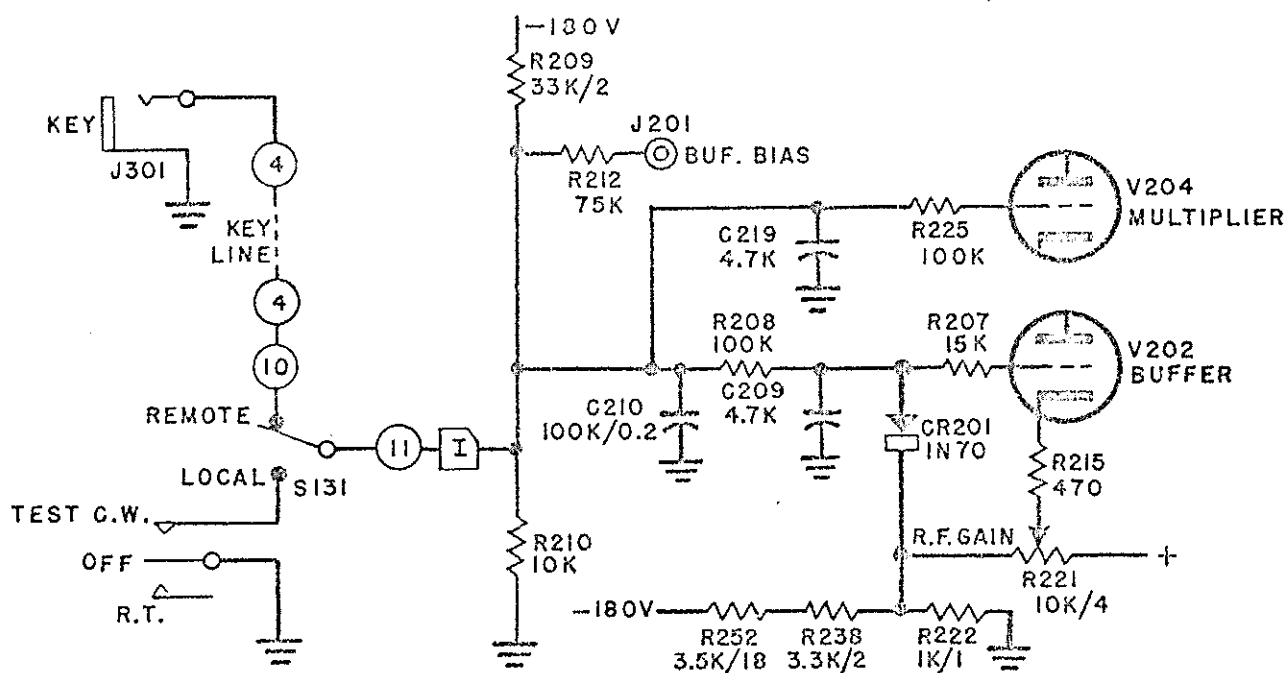

Fig. 2-5 Keying, Simplified Schematic Circuit
(1) Keying of the transmitter is accomplished by disabling the buffer and multiplier stages and thus interrupting the r-f drive to the power amplifier. The key-line (see Fig. 2-5) comes from the remote control through "REMOTE-LOCAL" switch S131 to the junction of R209 and R210, which are connected between the -180v bias supply and ground. When the key is up, this junction is at a negative potential of about 37 volts, which is sufficient to cut off V202 and V204 through R208, R207 and R225. Thus, even though the oscillator continues working, no r-f signal can reach the power amplifier. When the key is down, R210 and C210 are short-circuited and the control grids are grounded